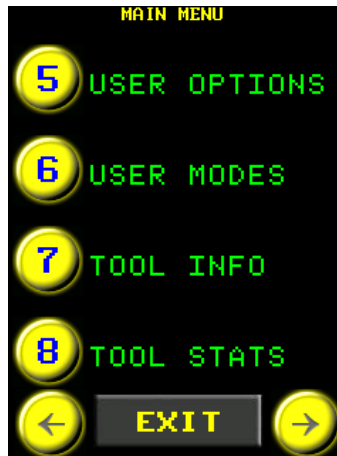

Figure 5.10-1: Main Menu
2. Select "User Modes" from the Main Menu (Figure 5.10-1).